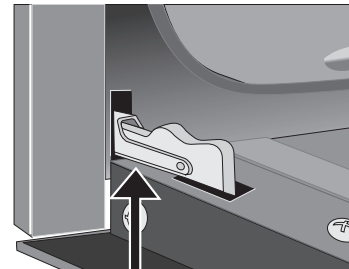
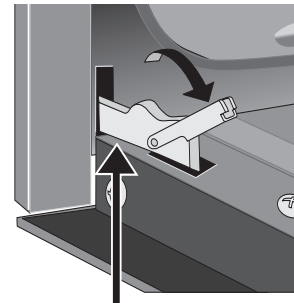

Figure 42: Door hinge locks
Figure 43: Unlocking door hinge
2. Pull up the lock located on each hinge support toward front of the oven until the lock stops. You may have to apply a little upward pressure on the lock to pull it up (Figure 42 and Figure 43).
4. Push the door hinge locks up toward and into the oven frame on both left and right oven door hinges to the locked position (Figure 43 and 42).